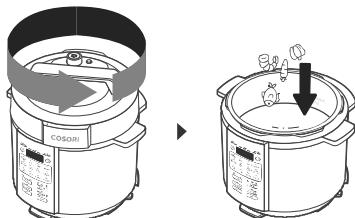

Figure 5.1
- Twist the lid anticlockwise and lift to open. Add the ingredients to the inner pot. [Figure 5.1]